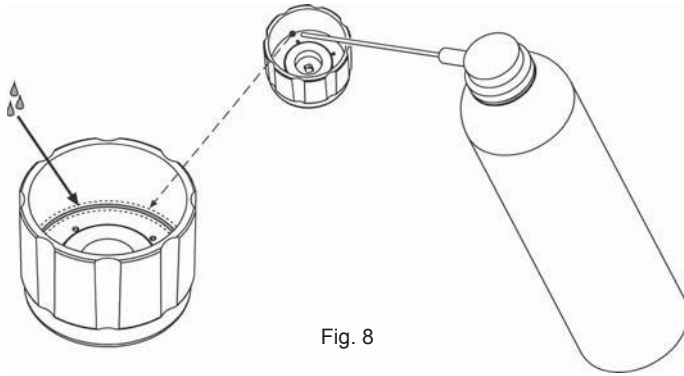

Fig. 8
- 3 Lubricate with a commercial surgical grade instrument lubricant on the points shown in Fig.8;